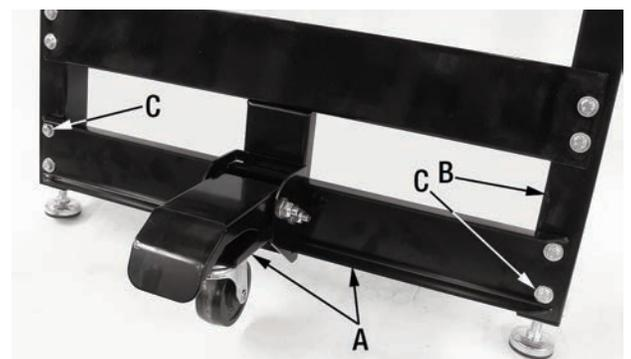

FIGURE 4
- 2) Assemble the complete pedal caster and brace assembly (A) Fig.4 to one of the leg assemblies (B) using 4 hex. bolts and washers (C).